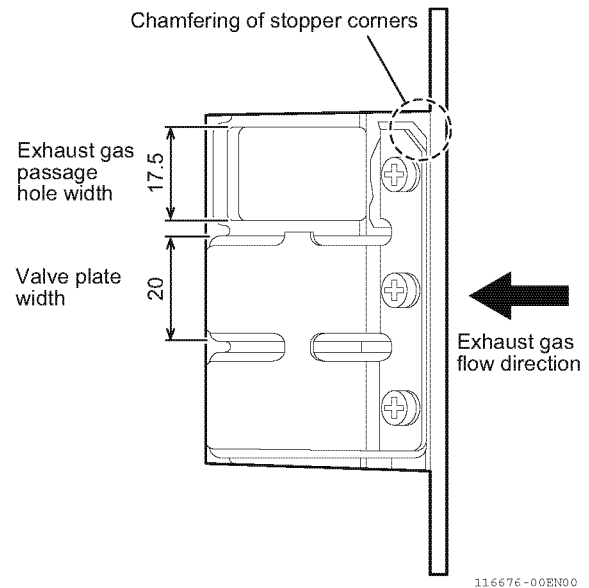

Fig.23-12
- The valve and stopper must be installed in their specific orientations. As shown in the figure above, install the valve and stopper so that chamfering of stopper corners are located on the left-hand side of the lead valve Fig.23-12.